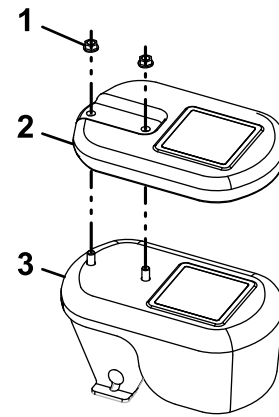

Figure 8
2. Use the nuts (3/8 inch) to add the flat weight to the weight assembly for a machine with a 122 cm (48 inches) mower deck (Figure 8).